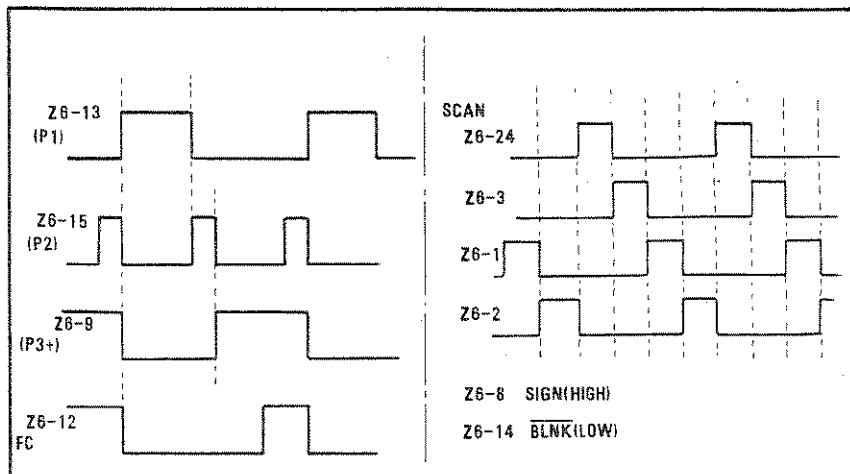

Figure 4-7. Program Logic Waveforms
- Observe waveforms at Z6 outputs and compare with those illustrated in Figure 4-7. If satisfactory, then Z6 is functioning properly.